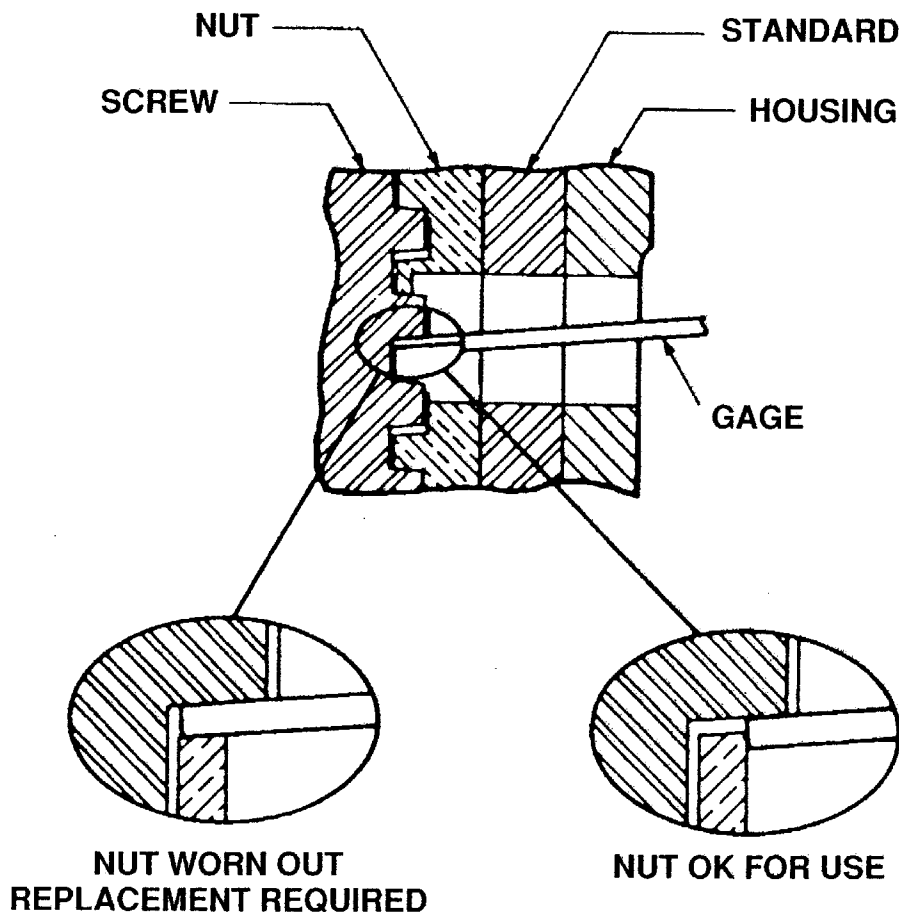

FIGURE 2-2. LIFTING NUT INSPECTION
To inspect the lifting nut refer to Figures 4-1 through 4-8 and Figure 2-2 and proceed as follows:
- (1) Fully extend the upright unloaded jack.
- (2) Loosen the two screws and remove the gage from the jack.
- (3) Clean grease from the hole which had been covered by the gage.
- (4) Insert the slender end of the gage into the hole.
- (5) If the thin tip of the gage can be made to enter the space between the top flank of the lifting nut thread and the bottom flank of the lifting screw thread, the lifting nut is worn out. (Ref. Figure 2-2)
- (6) **Remove jack with worn out lifting nut from service and ensure that it is properly repaired before returning to service.**